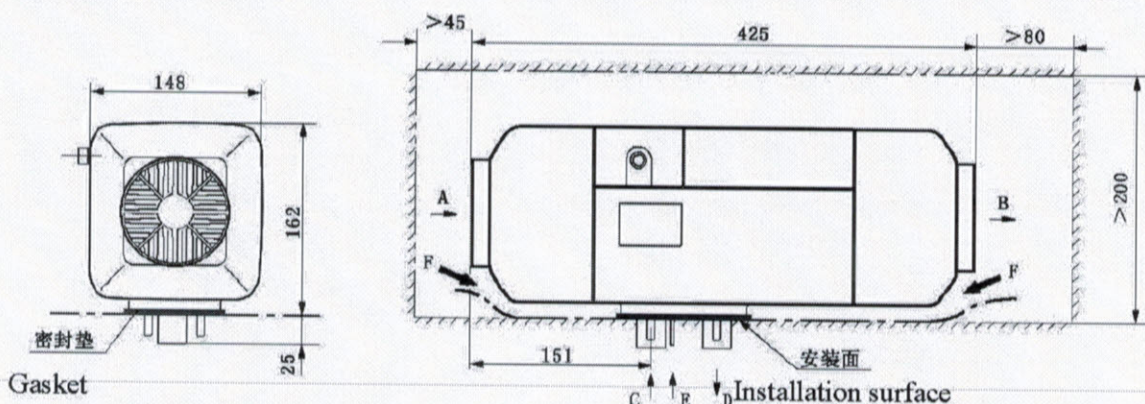

Fig. 8
4.2.2 For convenience of heating air flow and installation, maintenance of the main heater, enough space must be provided for installation. Please refer to the scope of double dot line for the space for installation, as shown in Fig. 8.
4.2.3 Good sealing is necessary between the main heater and the installation surface on the vehicle. A special gasket (as shown in Fig. 8) supplied by the manufacturer must be inserted in between during installation. The installation surface must be even enough. Its parts at the installation bases of the main heater shall have unevenness of less than 1mm. After drilling installation holes, evenness must be improved according to this requirement. At installation, please rotate the four M6 nuts, provided by the manufacturer, tight. The torque for tightening shall be 6Nm+1Nm.
In addition, please make sure that there is not any foreign matter in the gap between the bottom surface of the main heater and the installation surface of the vehicle (Fig. 8-F).